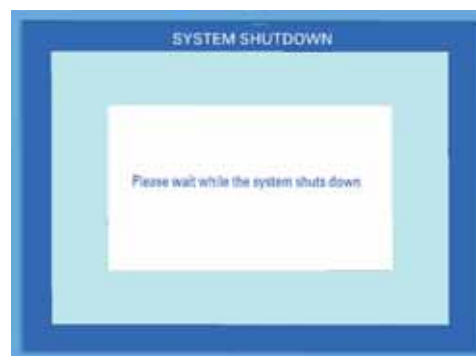

Figure 5-8 Powering Off PSU
1. Press and hold the On/Off/Standby Buttons on the front of the Control Unit until shutdown cycle begins (see Figure 5-8).